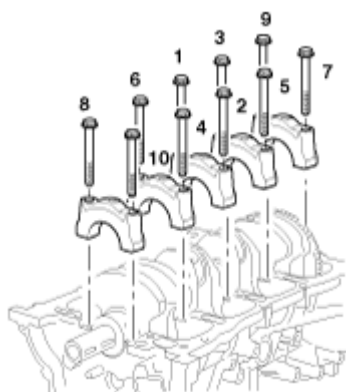

Fig. 35: Identifying Tightening Sequence Of Bearing Cap Bolts
2. Install and uniformly tighten the 10 bearing cap bolts (A), in several passes, in the sequence shown in **Fig. 35**.
3. Retighten the bearing cap bolts by 120° in the numerical order shown in **Fig. 35**. (Using the SST (09221-4A000))